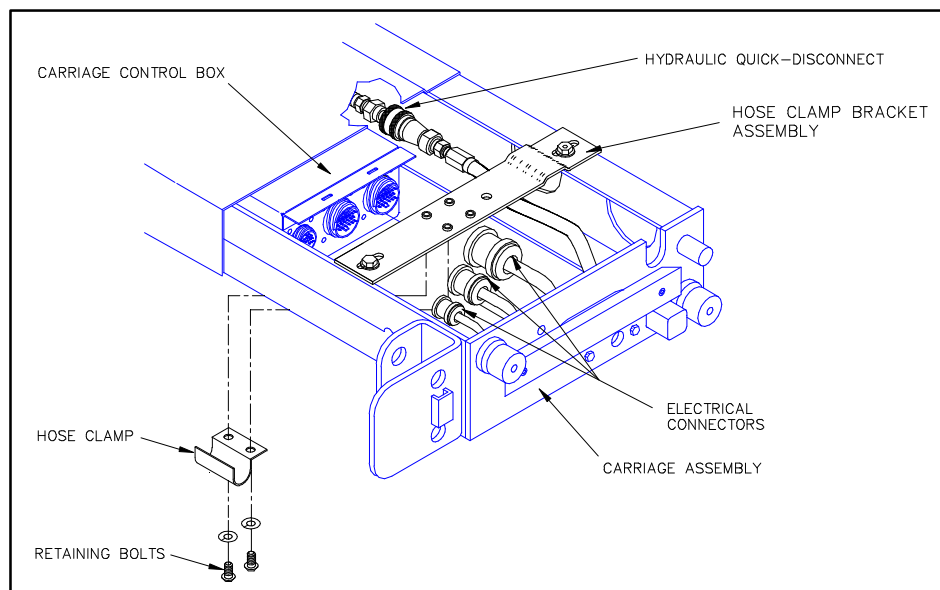

FIGURE 4-2: CARRIAGE ASSEMBLY
- a. Refer to **Figure 4-2**. Fully deploy the lift.